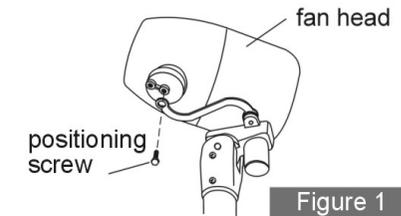

Figure 1
1. When the positioning screw is set to the middle of the rotating plate, the fan does not oscillate. (See Figure 1)